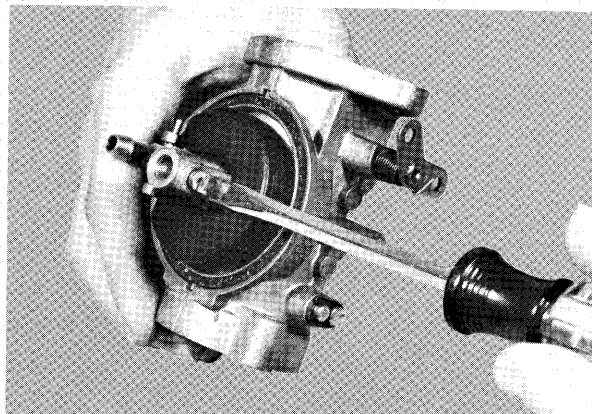

Figure 4—Removing Main Fuel Jet
- C. Remove main fuel jet as shown in figure 4.
- A. Install main fuel jet as shown in figure 4.